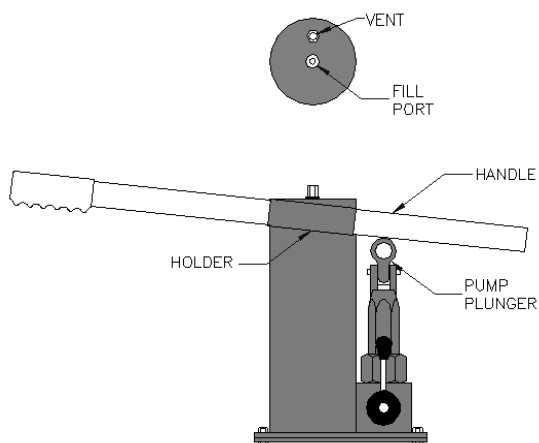

Figure 2
4. Return the pump handle to the storage holder and lock in place with the pump plunger down (figure 2).